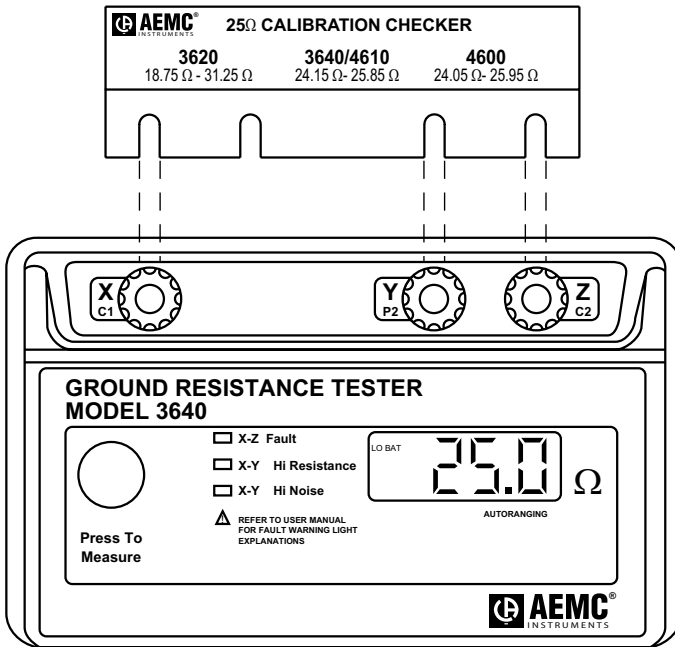

Figure 18
- Insert the resistor as shown in Figure 18.
For example, if a check was performed on the 3640, the display should show a reading between 24.15Ω and 25.85Ω. If so (as in Figure 18), the instrument is in good working condition.